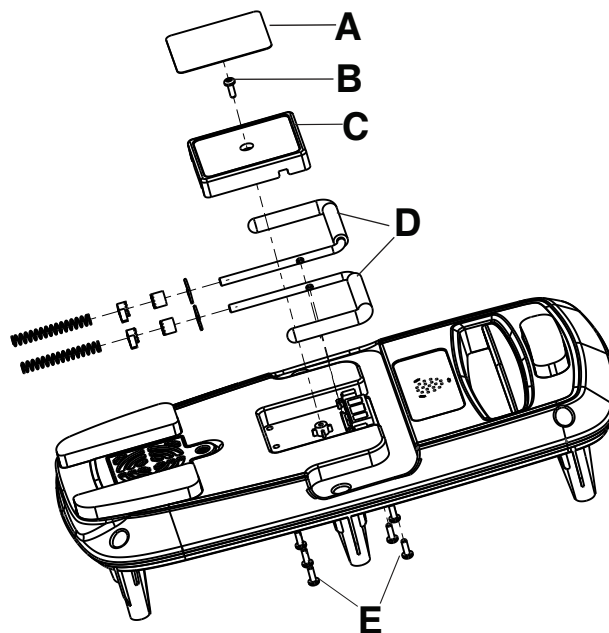

Figure 13 – Hook assembly
4. Using a pick, remove the information label (A) on the hook assembly (Figure 13). Discard the information label.